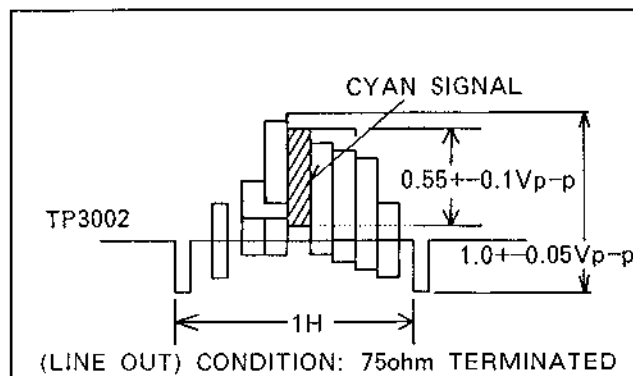

FIG. E16
3. Adjust VR3405 for $1.0 \pm 0.05 \text{ Vp-p}$ and VR8203 for $0.55 \pm 0.1 \text{ Vp-p}$ as shown in FIG. E16.